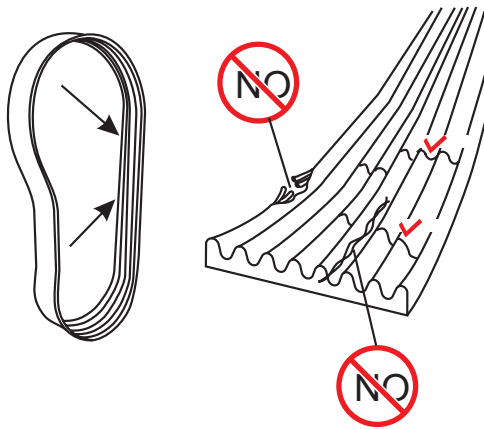

Figure 33. Wear And Tear Check
2. Regularly check the poly V-belt for wear. If wear is detected (Figure 33), the belt must be immediately replaced.